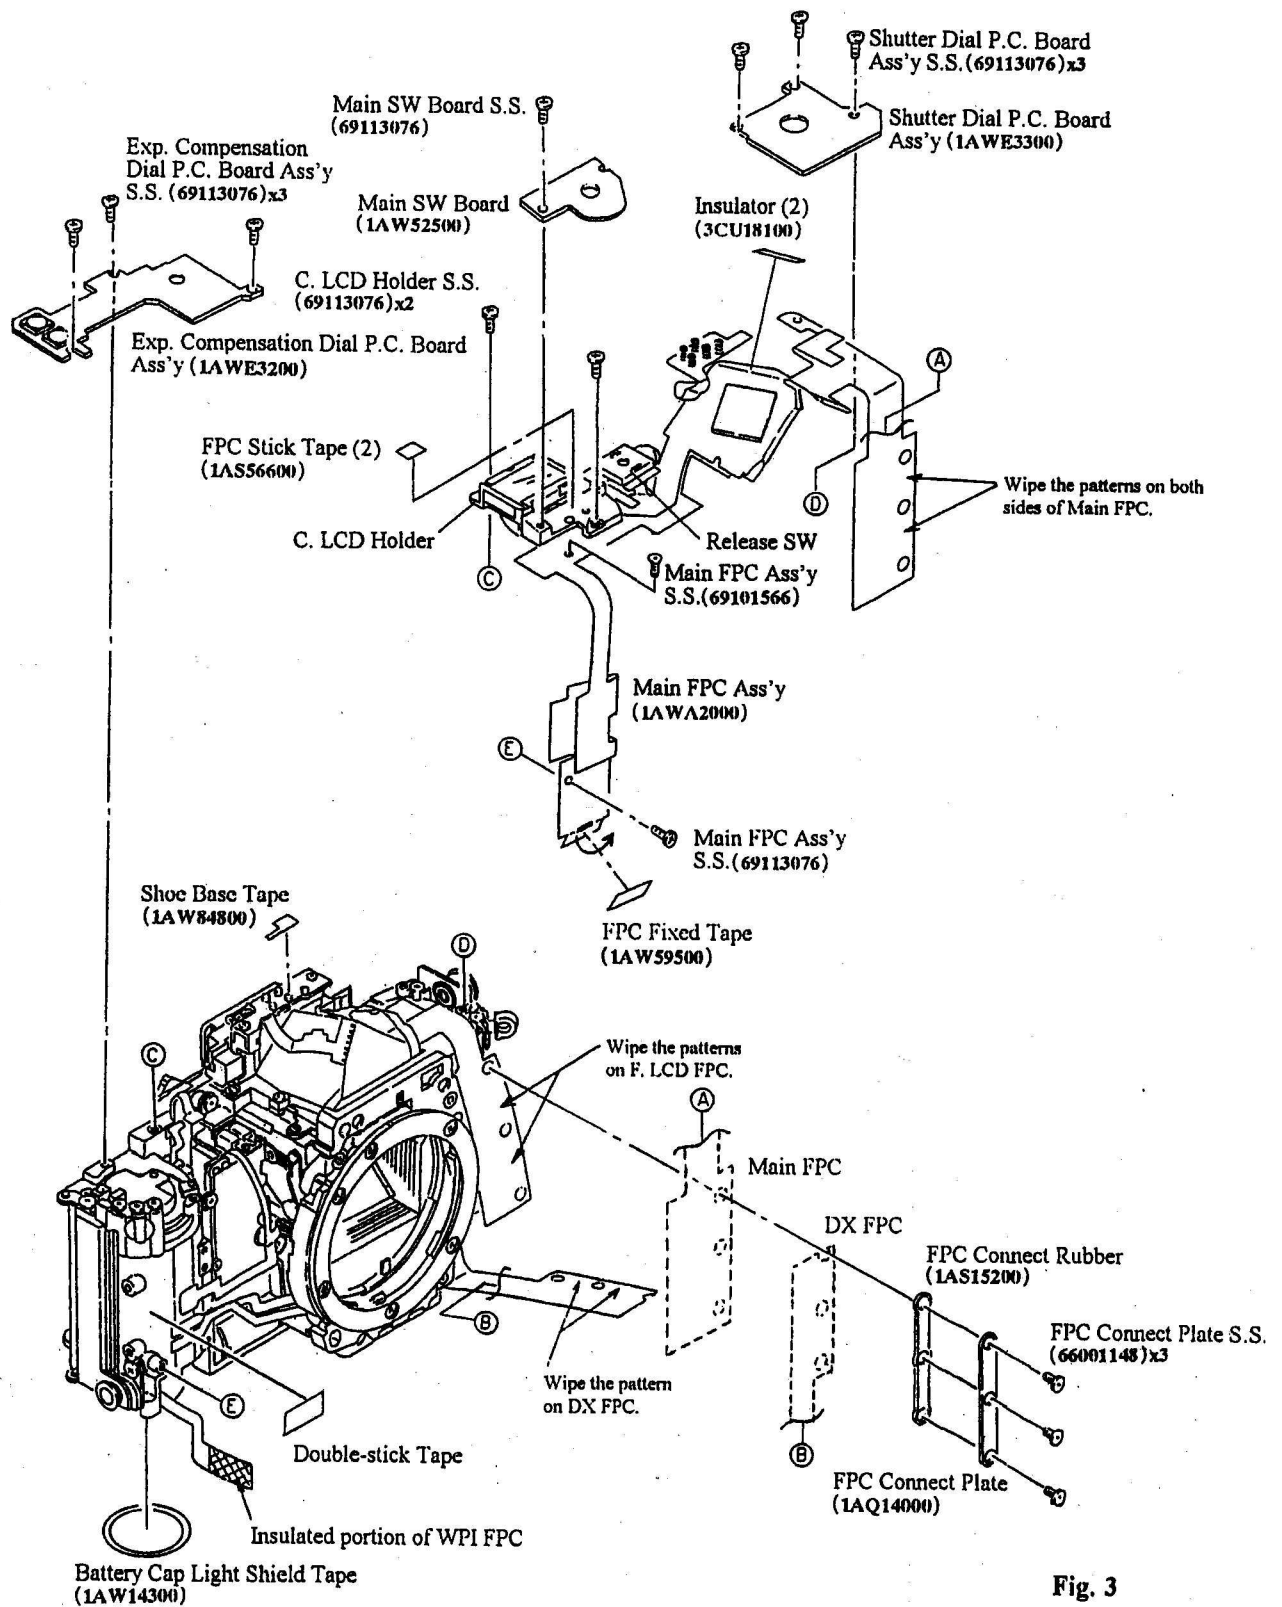

Fig. 3
(See Figs. 3 and 4) (Bottom Left of the Body)
- ② Stick double-stick tape on the Body and affix the Main FPC Ass'y to the Body.
- e) With lens cleaning paper with ether alcohol, wipe the connector patterns on both sides of the Main FPC Ass'y, the connector pattern on the F. LCD FPC and the connector pattern on the DX FPC. (See Fig. 3).